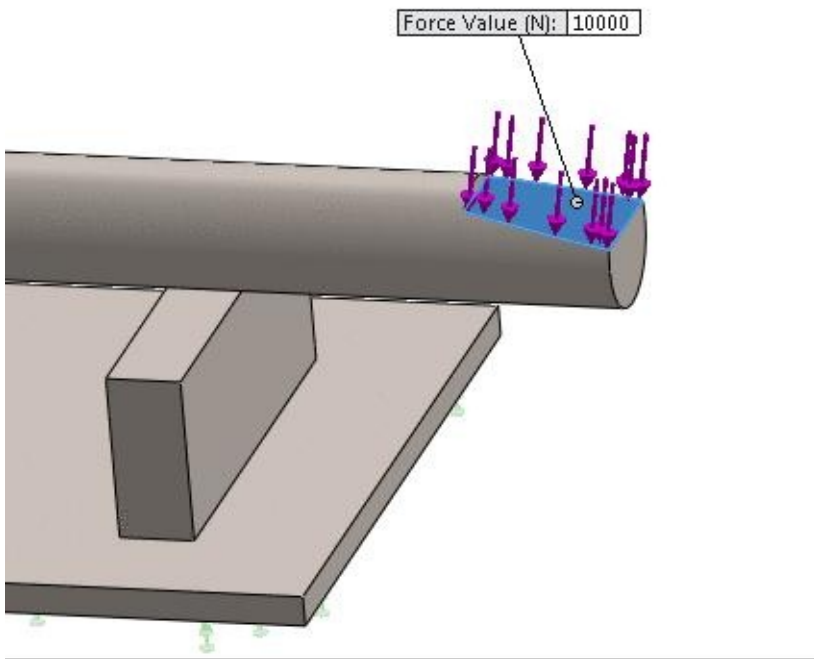

Figure-16. face selected for force
- Select the face as shown in Figure-16.